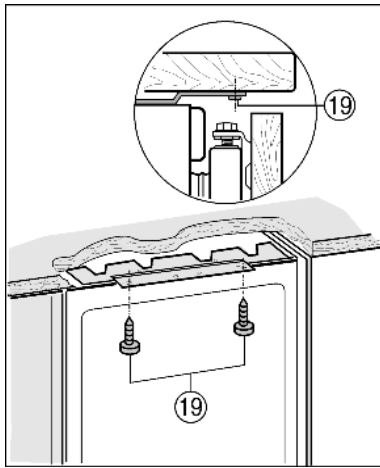

Fig. 15
- Screw in long chipboard screws Fig. 15 (19) at the top.